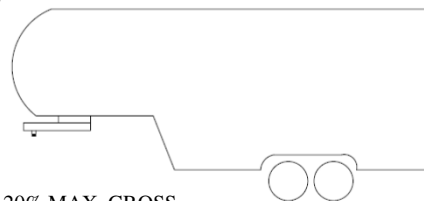

Figure 3
- King pin weight must not exceed 3,200 pounds (See Fig. 3). If in doubt have king pin weight measured by qualified facility.
#### 2. The Sidewinder™ pin box is designed for a maximum of 20% Gross Trailer Weight on the pin (Pin Weight). See Fig. 3